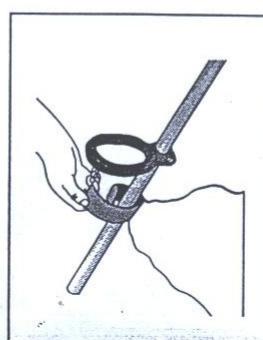

Fig. 3
4. Fasten the strap to the shaft above the handle (Fig. 3).